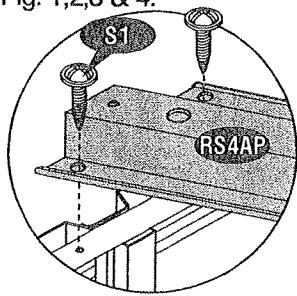

Fig.1
14. Place the Roof Structure (RS4AP) on the top of Roof support and top angle side. Secure with (S1) screws to the top angle and Roof support as shown in Fig. 1,2,3 & 4.